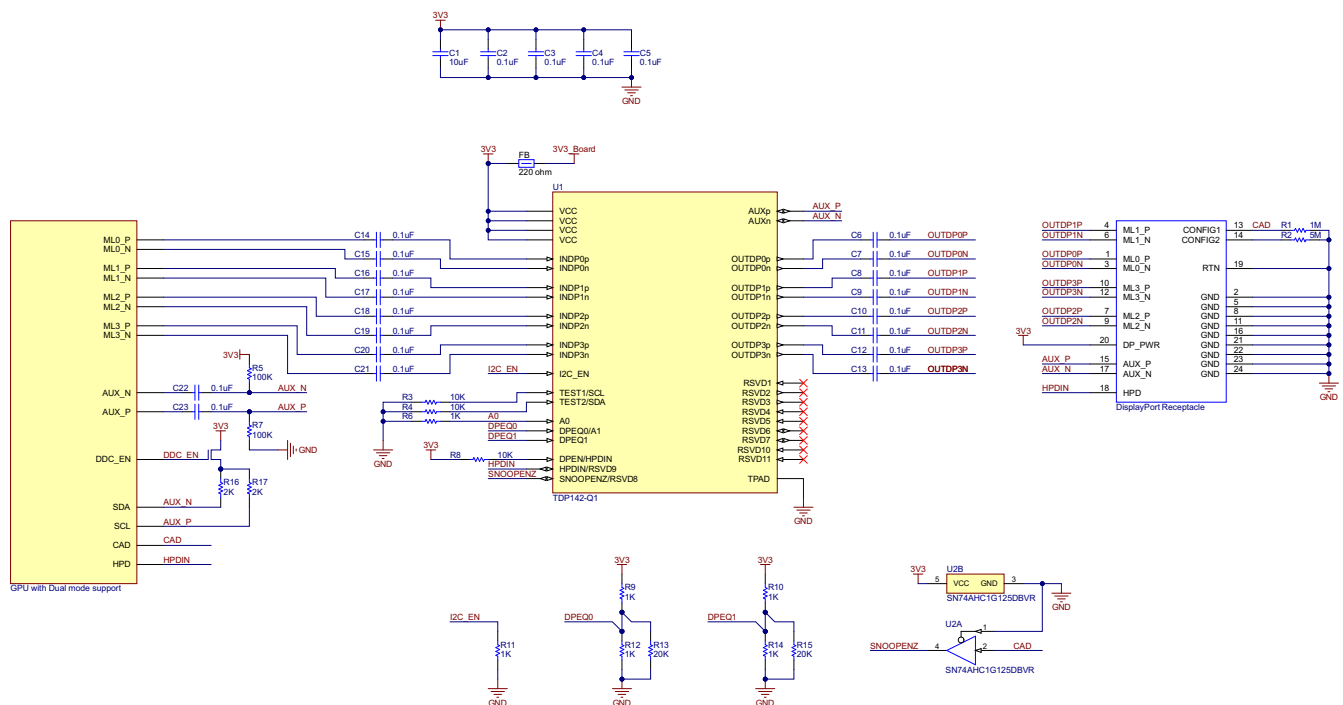

Figure 8-3. Block Diagram of DisplayPort Source Application
Figure 8-3 shows the schematic for the Source side application. The TDP142-Q1 is placed between the DisplayPort Graphics Processor Unit (GPU) and the DisplayPort receptacle. The TDP142-Q1 monitors AUX traffic for power management purposes when SNOOPENZ is low.
- See Figure 8-3 for information on the source application that uses AC-coupling capacitors, control pin resistors, and the recommended decouple capacitors from VCC pins to ground.